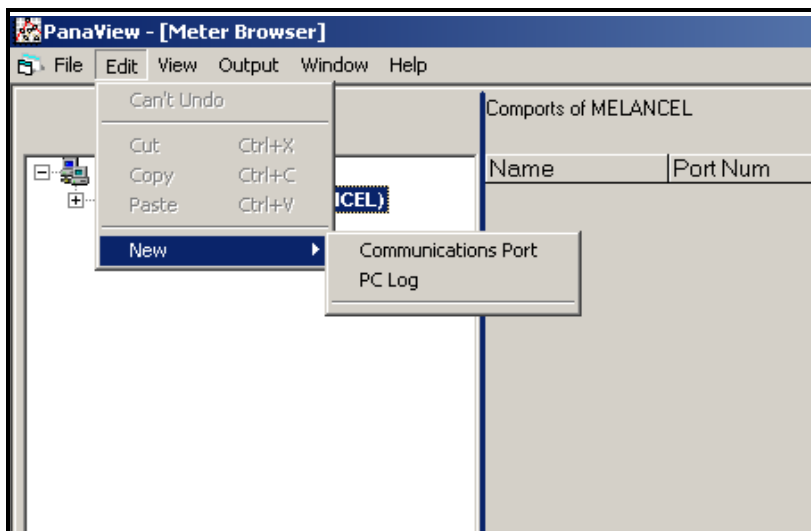

Figure D-2: The Edit Menu
3. Click on the “*New*” menu option to select it, and a submenu opens with two choices on it (see Figure D-2 below).